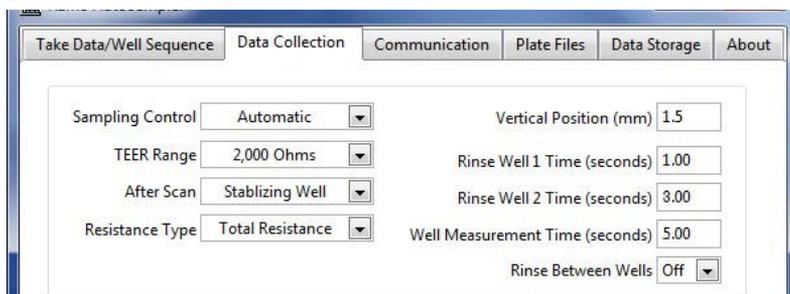

Fig. 22 — Data Collection Tab
**Z low:** Typically this is set to the lowest point in the well (just touching the membrane) as a reference point. This is not necessarily the low position of the electrode during a sampling sequence. The Z low electrode height (during the execution of a sequence) is set relative to the setting defined here, as defined in the *Vertical Position* field in the Data Collection tab (Fig. 22 on page 14).